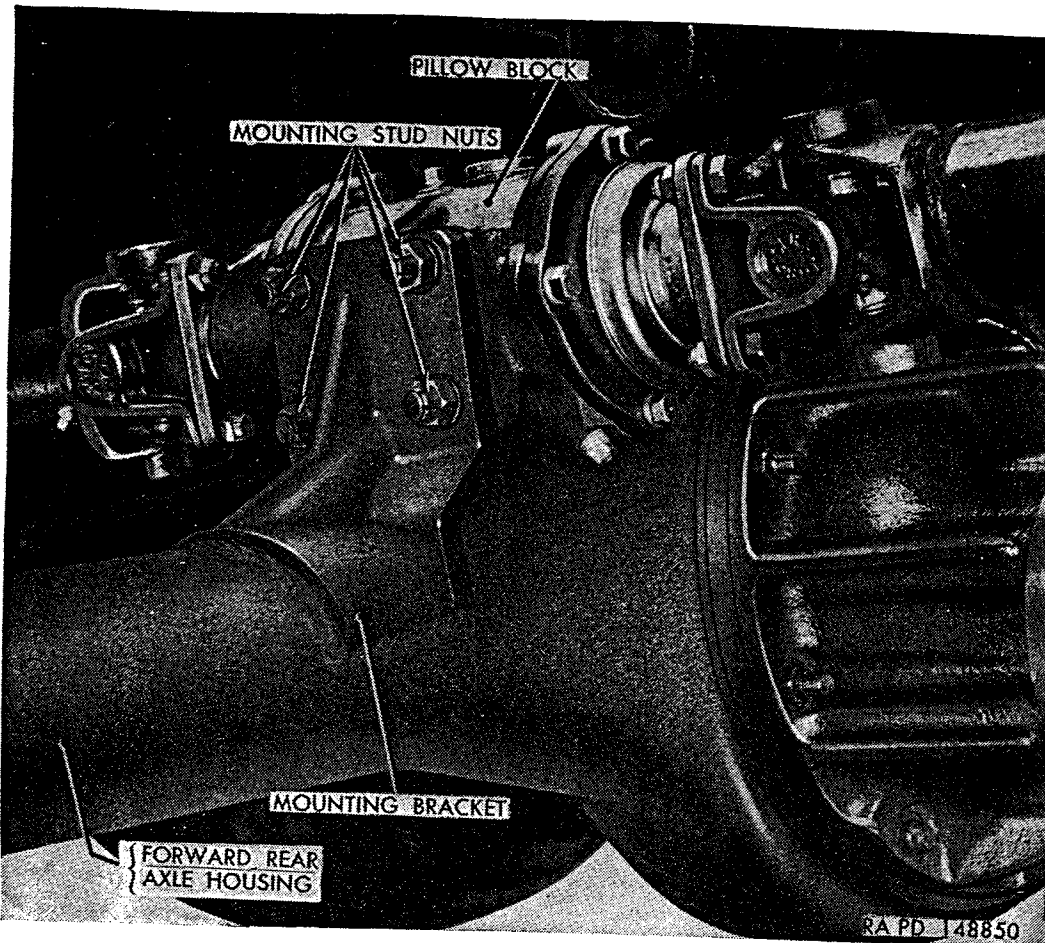

Figure 243. Pillow block installed.
e. Pillow Block (fig. 243). Pillow block assembly, mounted on top of forward rear axle, connects and supports the two propeller shafts required to transmit power from transfer to rear rear axle.
a. Description. Pillow block consists of a shaft supported by two ball bearings mounted in a housing. Pillow block is installed on forward rear axle housing as shown in figure 243. Double lip oil seals, supported in retainer, are used at each end to prevent loss of lubricant and entry of dirt, water, and other foreign matter.